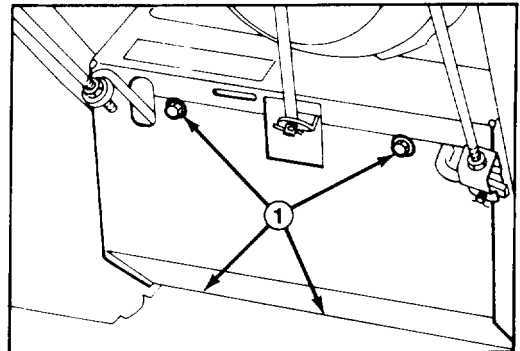

Figure 16
2. Tip snowthrower onto auger housing and block it so it cannot fall. Now remove four thread forming screws holding bottom cover in place, and slide shield away from unit (Fig. 16).